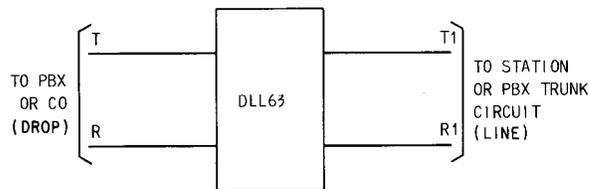

Fig. 6-28—DLL63 Shown in Typical Application
**6.49 Description:** The DLL63 (Fig. 6-28) is a dial pulse repeating circuit used to pass dial pulses in one direction and 20 Hz ringing in the other. The DLL63 is used as a means for a long PBX station to dial into a dial PBX or for a manual PBX to dial into a dial CO. The DLL63 can also be used to connect a subscriber line to a dial CO when the conductor resistance exceeds the office range. When ringing is received from the CO or PBX end, it is passed to the station or PBX in one of three methods: (1) directly through the DLL —BYPASS RINGING Option EI (the CO ringing current is sufficient to pass to the station.) (2)  $\pm 105$  Volts (this varies from + 105V to -105V 20 times per second) ringing, with tripping during the silent interval only Option (P). (3) 20-Hz ringing (84 to 88 volts), with tripping during silent and ringing interval (Option (U) or (S)). The latter is the only method covered here.